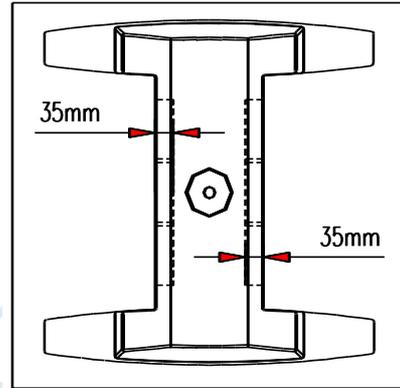

Fig.6
Take out the base[2] from the package and lay it on the earth. Take out the Balance block[3] and place it gently targeting the two Position Holes.(Attention: Hands hold at less than 35mm to the edge of the Balance Block. Indicated in Fig. 6)
2. Insert the column into the Balance Block vertically (Notice that there are two Position Hole of 90° at the bottom of the column), and then rotate the column to the needed direction. Then insert the Hexagon screw together with the spring washer and the flat washer from the beneath into the column (indicated in Fig. 6). Note insert the spring washer first, then the flat washer.